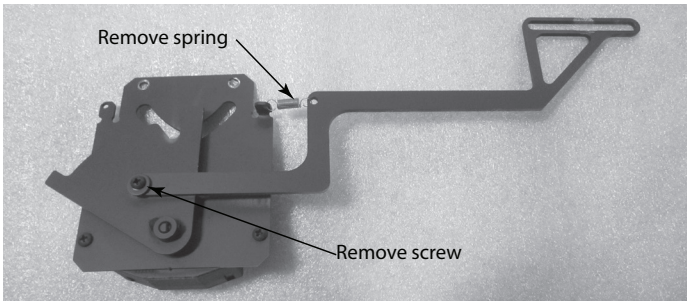

**Figure 4.30 Removal of Linkage Arm and Spring**
6. Remove the linkage arm and the spring from the timer. See Figure 4.30.